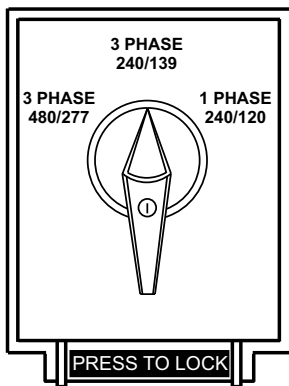
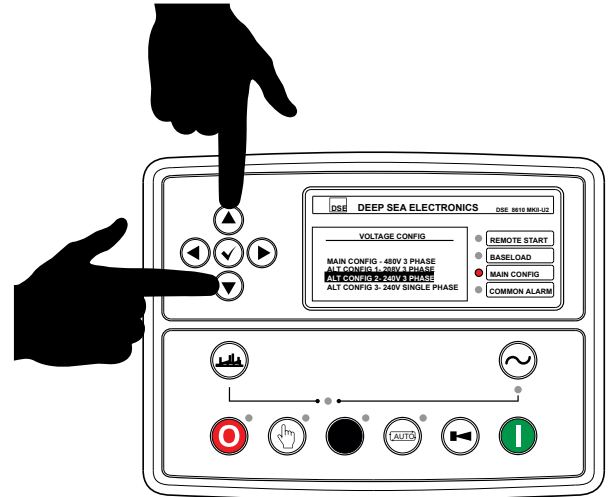

Figure 70. Voltage Selector Switch
Figure 71. Voltage Config Screen
- From the "Alt Config Menu (Figure 41), verify that the "VOLTAGE CONFIG" screen (Figure 71) is displayed.
- Verify that the selected voltage being displayed on the Voltage Config Screen (Figure 71) is the same voltage as indicated by the voltage selector switch (Figure 70).